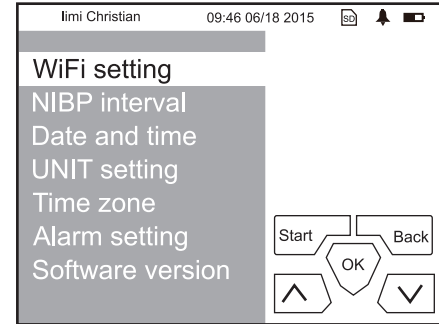

Fig.3.3
- In the Fig.3.3, press up/down to choose "WiFi setting"